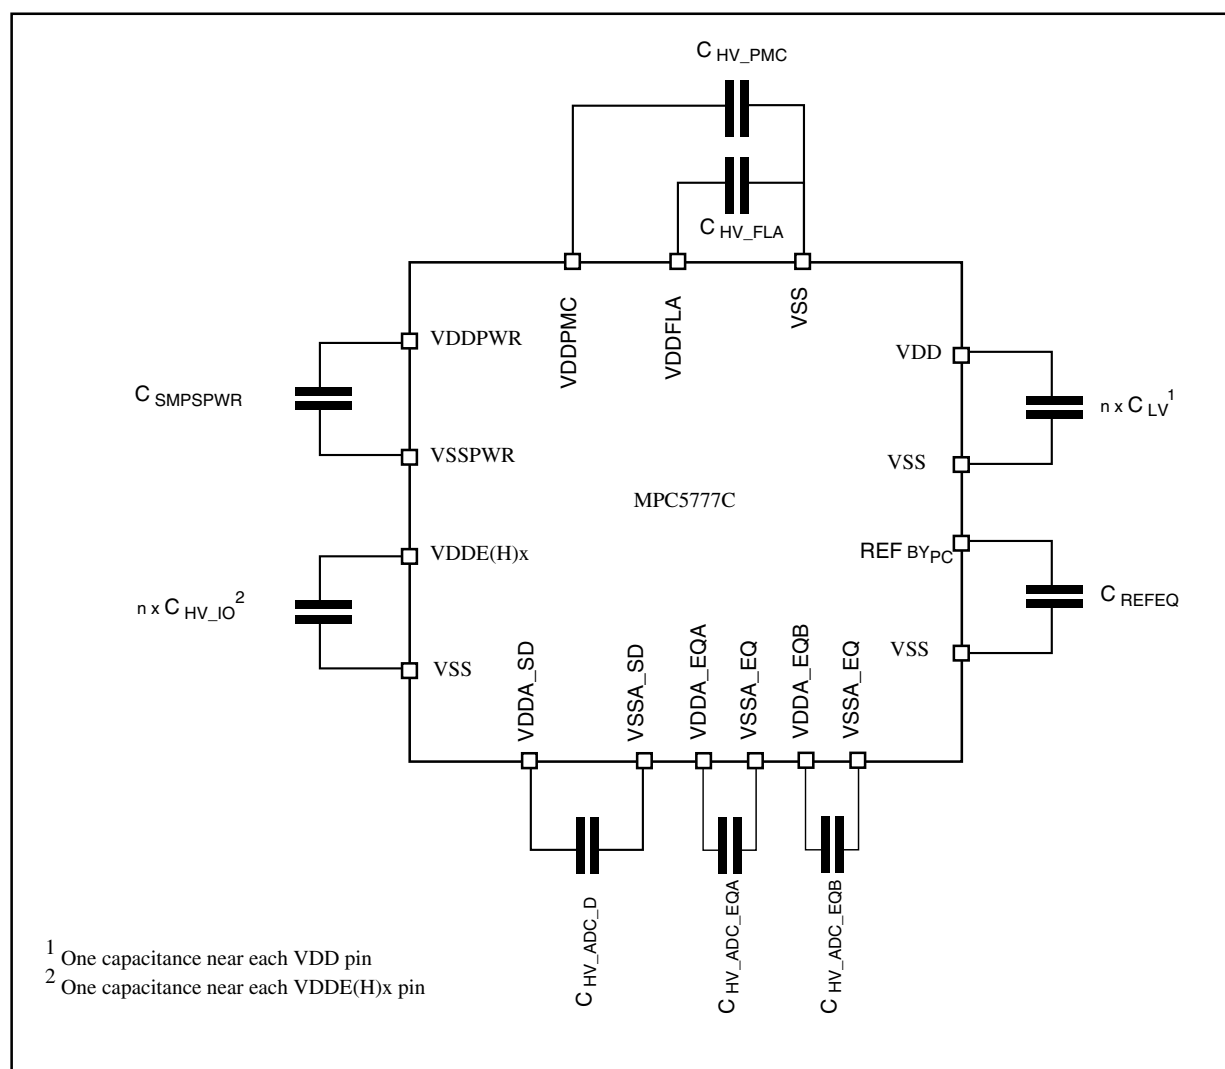

Figure 14. Recommended supply pin circuits
1. See Figure 14 for capacitor integration.